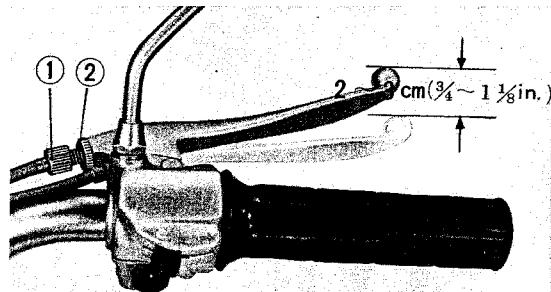

Fig. 125 Brake cable play adjustment
- 7) Adjust the play in all the cables. (Fig. 125, 126)